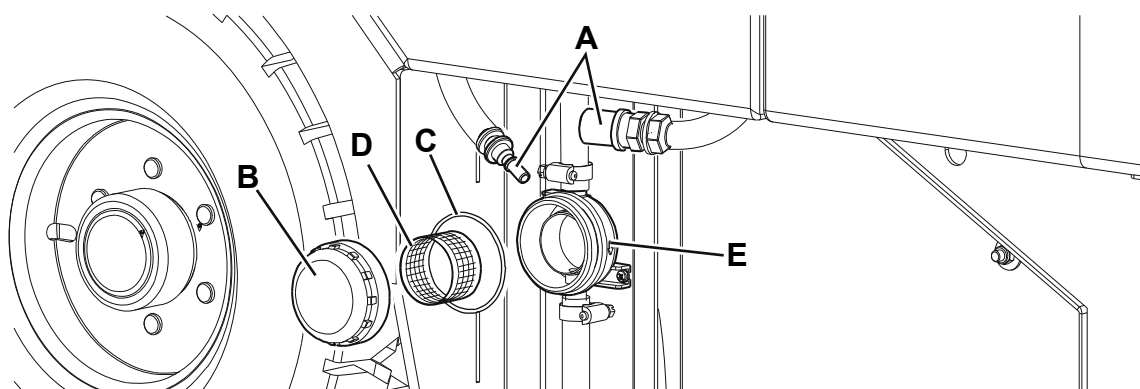

Figure 7
1. Drive the machine on a level floor, engage the parking brake and turn the ignition key (64) to "O".
2. Disengage the quick coupling (A, Fig. 7) from the tank hoses.
3. Remove the left panel (2) to reach the water filter (30).
4. Remove the transparent cover (B) with the gasket (C), then remove the filter strainer (D). Clean and reinstall them on the support (E).